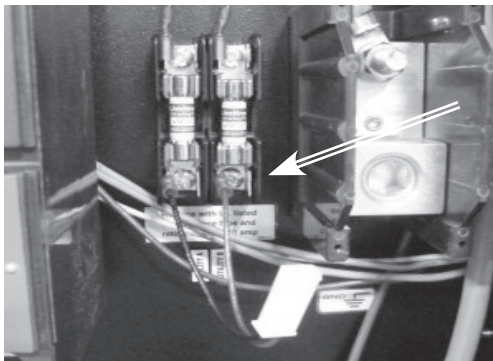

Figure 7
3. At the fuse block inside the generator, connect each of the adapter harness wires to the spade terminals under each fuse (arrow, Figure 7).